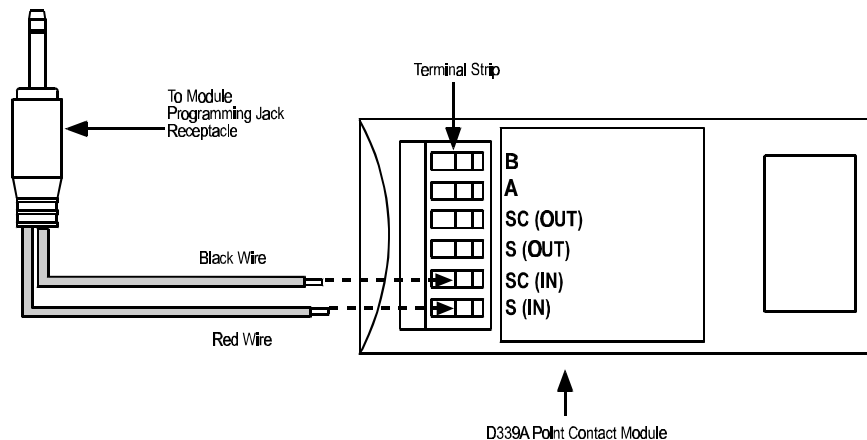

Figure 3: D339A Programming Connections
- To program the address on the D339A, the black and red wires that extend from the Programming Adapter must be wired to the terminal strip on the D339A module (See Figure 3). Plug the remote programming jack on the Programming Adapter into the remote programming jack receptacle on the D5070 Analog Device Programmer, and then follow steps 2 through 4 as described above.
- Wire the D326A, D334A or the D339A in the polling circuit by connecting the Data/Power Positive (+) and Data/Power Common (-) terminals as shown in Figure 3.